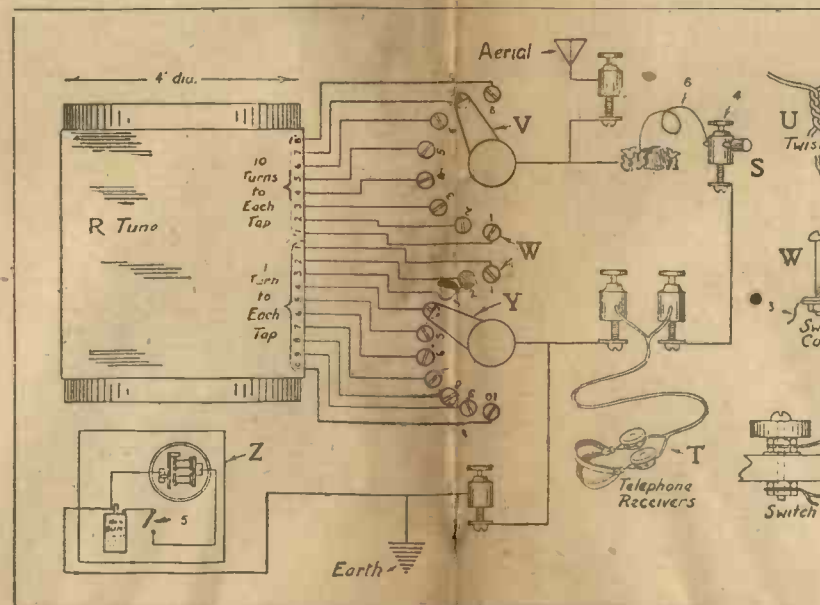

Fig. 3.—The Receiving Set in Complete Detail.
**Tuner.**—This is a piece of cardboard or other non-metallic tubing with turns of copper wire wound round it (see R, Fig. 3). Its construction is described in detail later.
**Crystal Detector.**—The construction of a crystal detector (S, Fig. 3) may be of very simple design and quite satisfactory. The crystal, as it is ordinarily purchased, may be unmounted or mounted in a little block of metal. For mechanical reasons the mounted type may be more satisfactory, but that is of no great consequence. It is very important, however, that a good crystal be used. It is probable also that a galena crystal will be the most satisfactory.
The crystal detector may be made up of a tested crystal, three wood screws, a short piece of copper wire, a nail, setscrew type of terminal, and a wooden knob or cork. The crystal is held in position on the wooden base by three brass wood-screws, as shown in Fig. 3. A bare copper wire may be wrapped tightly round the three brass screws for contact. The assembling of the rest of the crystal detector is quite clearly shown in Fig. 3.
**Telephones.**—It is desirable to use a pair of telephone receivers connected by a head band, usually called a double telephone headset (T, Fig. 3). The telephone receiver may be of any of the standard commercial makes having a resistance of between 2,000 and 3,000 ohms. The double telephone receivers will cost more than all the other parts of the station combined, but it is desirable to get them, especially if one intends to improve the receiving set later. A single telephone receiver with a head band may be used, though it gives results somewhat less satisfactory.
**Winding the Tuner.**—Having obtained a piece of cardboard tubing 4 in. in diameter and about  $\frac{1}{2}$  lb. of No. 24 (or No. 26) double-cotton-covered copper wire, start the winding of the tuner. Punch two holes in the tube about  $\frac{1}{4}$  in. from one end, as shown at 2 on Fig. 3. Weave the wire through these holes in such a way that the end of the wire will be quite firmly anchored, leaving about 12 in. of the wire free for connections. Start with the remainder of the wire to wrap the several turns in a single layer about the tube, tightly and closely together. After ten complete turns have been wound on the tube hold those turns snugly while a tap is taken off. This tap is made by forming a 6-in. loop of the wire and twisting it together at such a place that it will be slightly staggered from the first tap. This method of taking off taps is shown quite clearly at U (Fig. 3). Proceed in this manner until seven twisted taps have been taken off at every ten turns. After these first seventy turns have been wound on the tube then take off a 6-in. twisted tap for every succeeding single turn until ten additional turns have been wound on the tube. After winding the last turn of wire, anchor the end by weaving it through two holes punched in the tube, much as was done at the start, leaving about 12 in. of wire free for connecting. It is to be understood that each of the eighteen taps is slightly staggered from the one just above, so that the several taps will not be bunched along one line on the cardboard tube. It will be advisable, after winding the tuner, to dip it in hot paraffin wax.
Fig. 3) may be purchased in the assembled form, or it may be constructed from a thin slice cut from a broom-handle and a bolt of sufficient length equipped with four nuts and two washers together with a narrow strip of thin brass somewhat as shown. The switch contacts (w, Fig. 3) may be of the regular type, or they may be brass bolts equipped with one nut and one washer each. The switch contacts should be just sufficiently near each other so that the switch arm will not drop between the contacts, but also far enough apart so that the switch arm can be set so as to touch only one contact at a time.
The telephone terminal should preferably be of the set-screw type, as shown in Fig. 3.
**Wiring.**—Having constructed the several parts just mentioned and mounted them on the wood base, the next matter is to connect the several taps to the switch contacts and attach the other necessary wires. Scrape the cotton insulation from the loop ends of the sixteen twisted taps as well as from the ends of the two single wire taps coming from the first and last turns. Fasten the bare ends of these wires to the proper switch contacts as shown by the corresponding numbers in Fig. 3. Be careful not to cut or break any of the looped taps. It would be preferable to fasten the connecting wires to the switch contacts by binding them between the washer and the nut, as shown at 3 (Fig. 3). A wire is run from the back of the terminal marked "earth" (Fig. 3) to the back of the left-hand switch-arm bolt (v), thence to underneath the left-hand binding post marked
"phones." A wire is then run from underneath the right-hand terminal marked "phones" to underneath the binding post 3 (Fig. 3), which forms a part of the crystal detector. Take a piece of No. 24 bare copper wire about  $2\frac{1}{2}$  in. long and twist one end tightly round the nail passing through binding post 4; its other end will rest gently by its own weight on the crystal. The bare copper wire which has been wrapped tightly round the three brass wood screws holding the crystal in place is led to and fastened at the rear of the right-hand switch-arm bolt (v), thence to the upper left-hand binding post marked 'aerial. As much as possible of this wiring is shown in Fig. 3.
**The Test Buzzer.**—As mentioned previously, it is easy to find the most sensitive spot on the crystal by using a test buzzer (z, Fig. 3). The test buzzer is used as a miniature local transmitting set. When connected to the receiving set, as shown at z, Fig. 3, the current produced by the buzzer will be converted into sound by the telephone receivers and the crystal, the loudness of the sound depending on what part of the crystal is in contact with the fine wire.
In order to find the most sensitive spot connect the test buzzer to the receiving set as directed, close the switch 5, Fig. 3, set the right-hand switch arm on contact point No. 8, fasten the telephone receivers to the binding posts marked 'phones, loose the set-screw of the binding post slightly and change the position of the fine wire (6, Fig. 3) to several positions of contact with the crystal until the loudest sound is heard in the 'phones, then tighten the binding post set-screw (4) slightly.